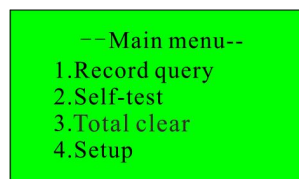
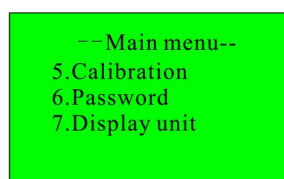

Figure 2
Figure 2-1
6.1.2 Main Menu (Figure 2 .Figure2-1)